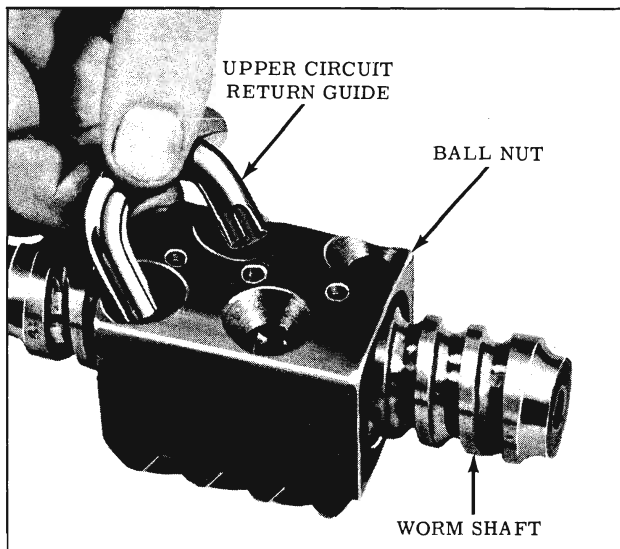

Fig. 4-222 Installing Ball Guides
5. Push the guide into the guide holes of the ball nut (Fig. 4-222). This completes one circuit of balls. If the guide does not push all the way down easily, rotate worm shaft back and forth slightly until guide can be pushed into position.